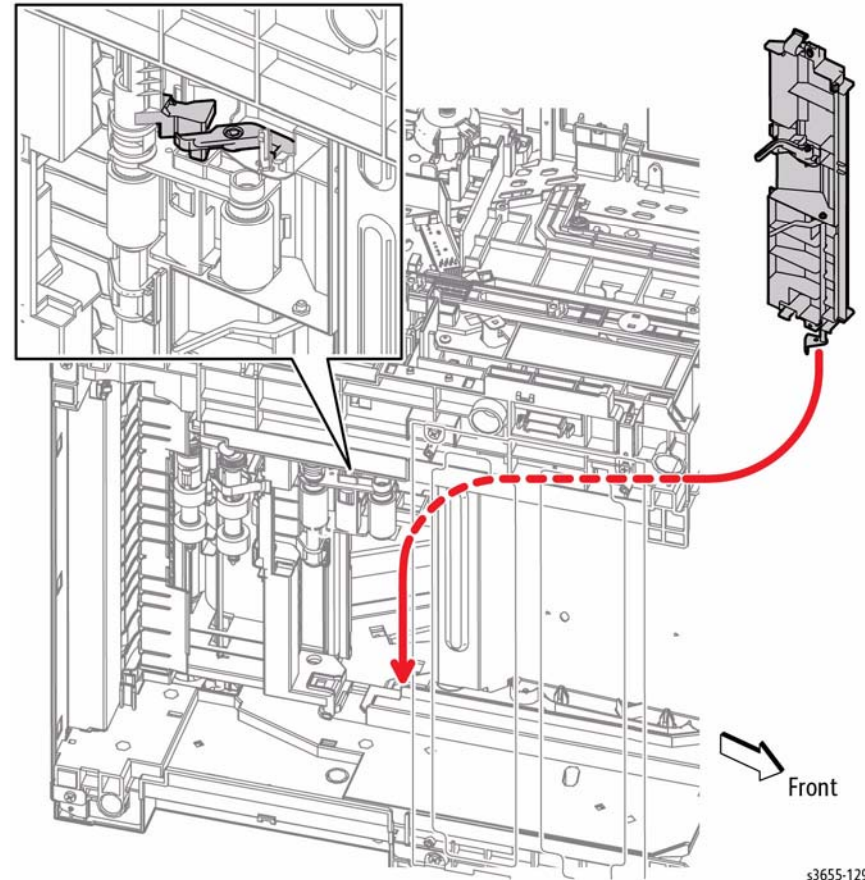

Figure 7 Install the Top Frame Assembly
3. Refer to Figure 7 when installing the Top Frame Assembly. Align the Bypass Tray No Paper Sensor Actuator coupled with the Top Frame Assembly so it fits into the hole on the printer and the MSI lock connects with the Pick Up Holder Assembly.